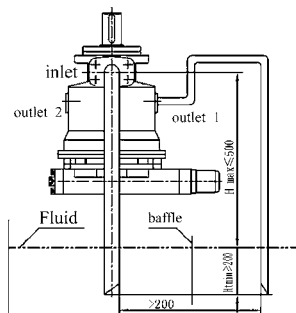
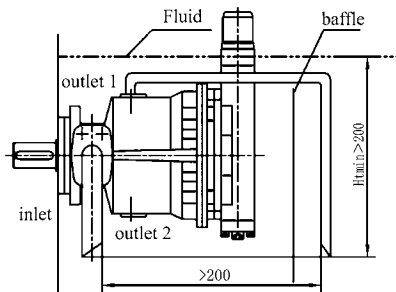
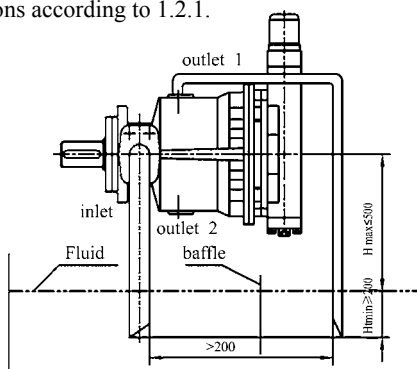

Fig. 2
Fig. 3
Fig. 4
b) If the minimum fluid level is below the pump mounting face pipe port "outlet 1" and "inlet" according to Fig 2
Before installation fill the pump housing, keeping it in a horizontal position. For mounting above reservoir see Fig. 2.
a) If the minimum fluid level is above the top of the pump, port "outlet 2" closed, "outlet 1" and "inlet" should remain open, "outlet 1" piped and recommendation "inlet" piped (see Fig. 3)
b) If the minimum fluid level is equal to or below the top of the pump, pipe ports "outlet 1" and possibly "inlet" as Fig. 4.; close port "outlet 2". The conditions according to item 1.2.1.
3.1 Stent installation: the checking method of installation accuracy of prime mover output shaft and support are shown in figure 3
In figure 2, the coaxial tolerance of error $\leq \Phi 0.05$; In figure 3, Vertical degree beating ≤ 0.05 (R is circle radius of pump installation screw holes distribution)
3.2 Flange installation: In this form, if prime mover and pump is connected with the coupling, the installation precision testing methods as shown in figure 3. If the pump shaft directly into prime mover in the output shaft, the installation precision testing method is as figure 4.